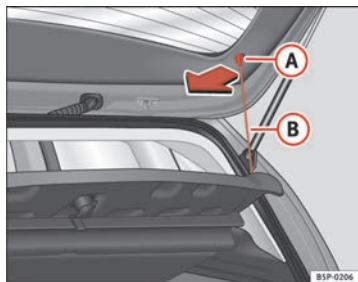

Fig. 123 Rear shelf
- Unhook the loops ⇒ fig. 123 **B** from housings **A**